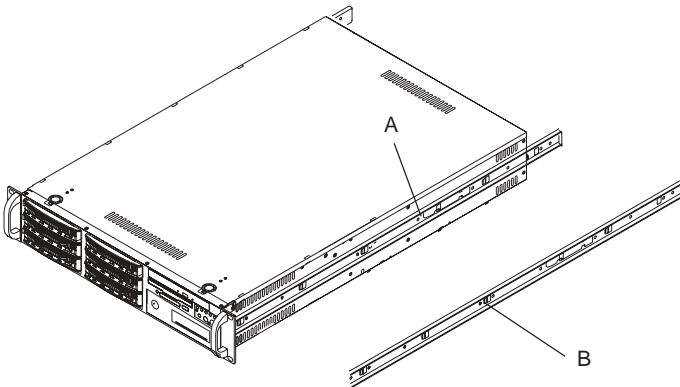

Figure 2-1. Identifying the Sections of the Rack Rails
You should have received two rack rail assemblies with the SuperServer 6023P-8R/6023P-8. Each of these assemblies consist of three sections: an inner fixed chassis rail that secures to the 6023P-8R/6023P-8 (A) and an outer fixed rack rail that secures directly to the rack itself (B). A sliding rail guide sandwiched between the two should remain attached to the fixed rack rail. (See Figure 2-1.) The A and B rails must be detached from each other to install.